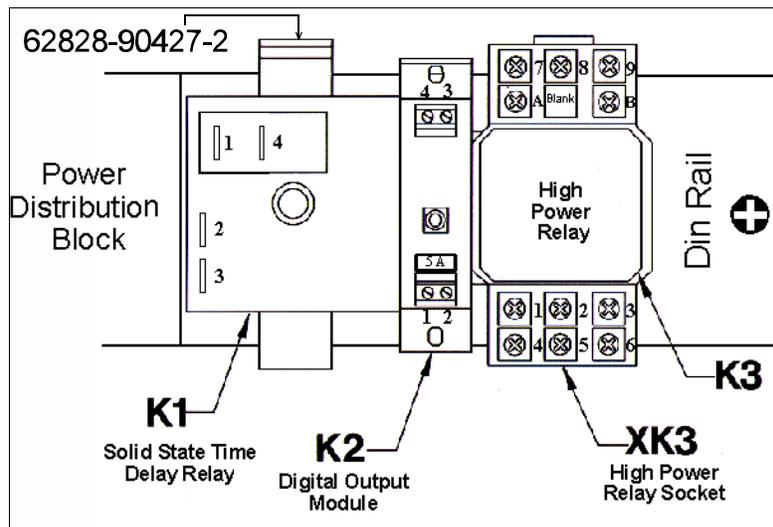

Figure 2 SSTDR, DOM, and UPSBC Assembly
9. Clip the SSTDR bracket (P/N 62828-90427-2) on the din rail. (See figure 2.)